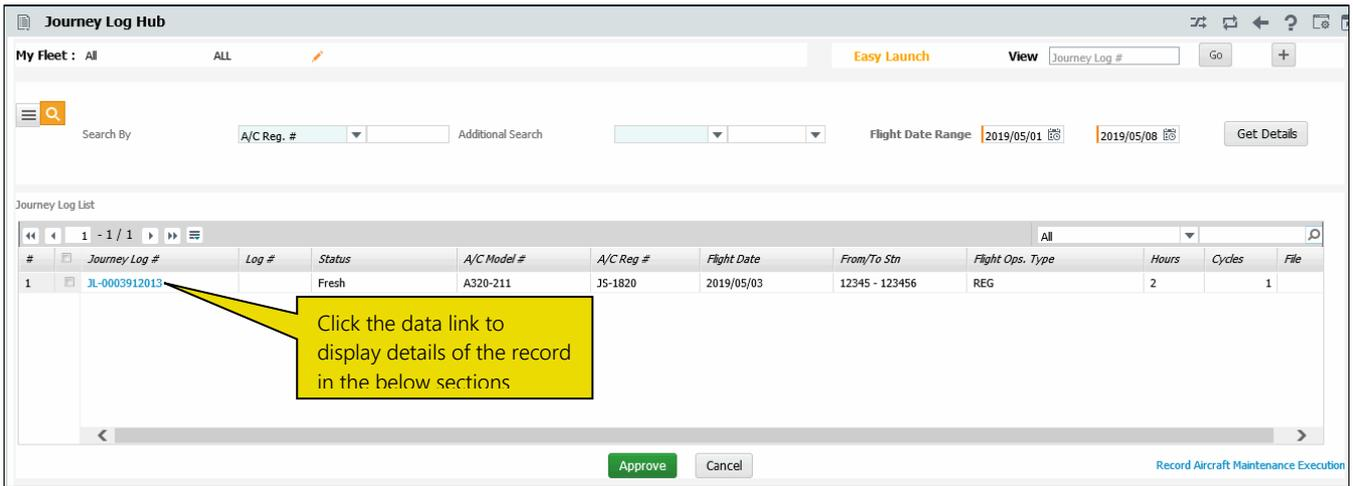

Figure 2.5: The Journey Log Search retrieval view
1. Click in the  icon to view and work on journey logs based on search criteria specified by the users. See Figure 2.5.